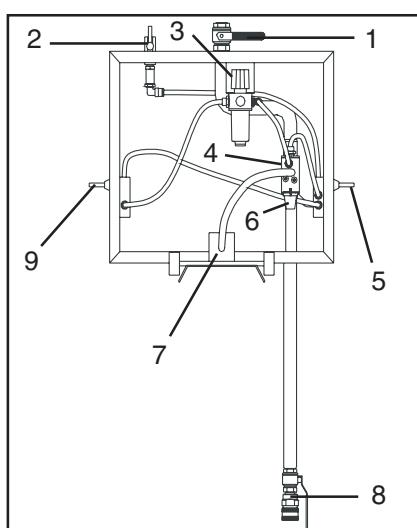

Fig. 7
**S3000, S3000 U, S3100, S3100 U** (fig. 7, 'User Pack').